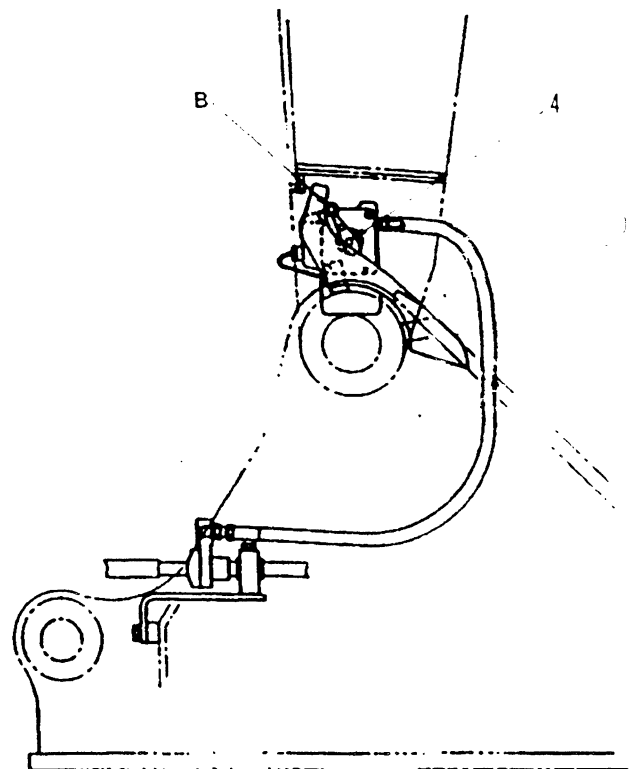

Fig. 2
- Hose (2) directs the oil pressure from the bottom side of the boom cylinders to pressure switch (3).
- When boom (5) is in the lowest position, lever (4) takes position B in Fig. 2 and the operating pressure becomes 360 kg/cm².
- When the boom is in the highest position, lever (4) takes position B in Fig. 2 and the operating pressure becomes 360 kg/cm².
- When the boom is in a position anywhere between the lowest and the highest points, the operating pressure of switch (3) will be somewhere between 60 kg/cm² and 360 kg/cm², based on the boom position.